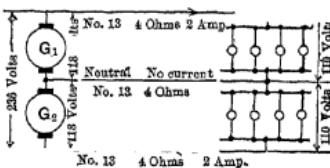
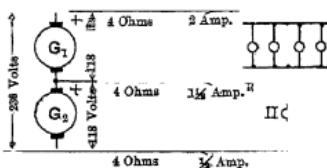
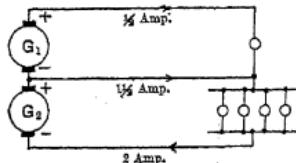
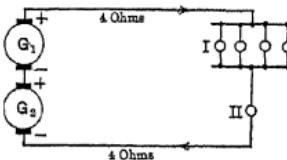

FIG. 103. Three-wire system; balanced. Neutral carries no current.
FIG. 104. Three-wire system; unbalanced. Neutral carries some current.
FIG. 107. Three-wire system; unbalanced. Neutral carries some current.
FIG. 108. Effect of broken neutral in three-wire system of Fig. 104.
The generator also has to have a special device to which this third wire is attached. It is much simpler, however, to consider the generator as divided into two 110-volt generators in series as in Fig. 103, with the neutral coming to the junction of the two.
49. Balanced and Unbalanced Three-Wire System. When there are the same number of lamps burning on each side of the neutral, as in Fig. 103, the neutral carries no current, and the system is said to be **balanced**. It is only when the system is **unbalanced** that the neutral is of use and carries current, as in Fig. 104. The system may be said
to be unbalanced, then, when the appliances on one side of the neutral are carrying more current than those on the other side, thus compelling the neutral to carry the surplus. Thus, if four $\frac{1}{2}$ -ampere lamps were turned on, as in Fig. 104, on the (+) side of the neutral, and only one on the other side, the neutral would have to carry $1\frac{1}{2}$ amperes back to the generator G_1 which is supplying the greater part of the power. If, however, the four $\frac{1}{2}$ -ampere lamps had been turned on, as in Fig. 107, on the (-) side of the neutral, and only one on the (+) side, then since the (+) side is supplying only $\frac{1}{2}$ ampere, the neutral must carry $1\frac{1}{2}$ amperes from the generator out to the lamps. G_2 is now supplying most of the power.
Of course on a large system any slight deviation from a balance makes no noticeable difference, but it is instructive to see what happens to the voltage distribution in a system unbalanced as much as that of Fig. 104.
The lamps of both groups were made to run on 110 volts as in Fig. 103, and would have their life shortened by 122 volts. We can say, then, that the result of extreme unbalancing is so greatly to disturb the voltage distribution, that
Prob. 100-5. If there were 6 lamps in Group I and 2 lamps in Group II, Fig. 104, each taking $\frac{1}{2}$ ampere, other things remaining unchanged, what would the voltage across each group become?
Prob. 101-5. What is the voltage distribution in Fig. 107, if the wires have a resistance of $2\frac{1}{2}$ ohms each? The generators maintain 115 volts each and each lamp takes 0.50 ampere.
Consider the neutral in Fig. 104 broken at (x). We should then have a series circuit as in Fig. 108.
Prob. 104-5. Find the voltage distribution if the neutral in Fig. 103 broke.